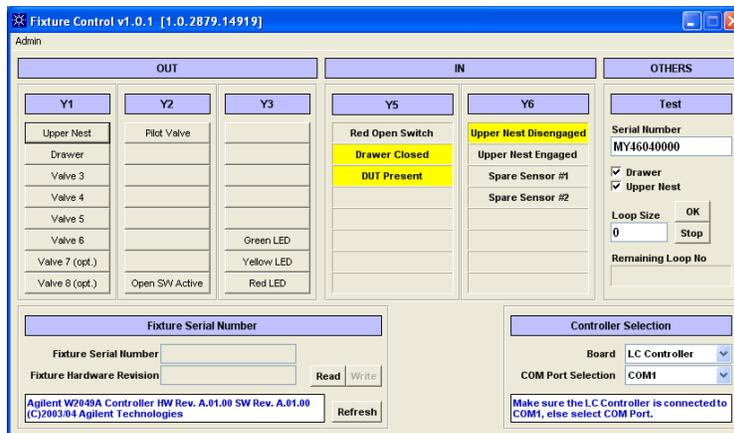

Figure 30: User Interface for the Agilent Fixture Control
28. After initiating the file, the User Interface (UI) as shown in Figure 30 will pop up.